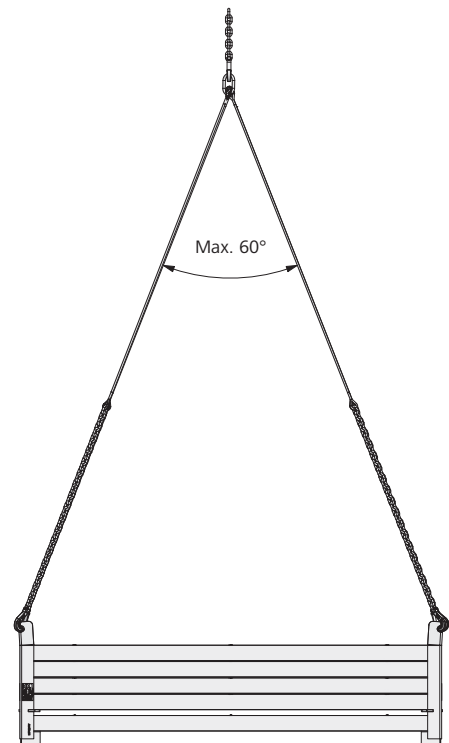

Fig. 71.4
- The opening angle of the crane sling must not exceed 60° (Fig. 71.4).